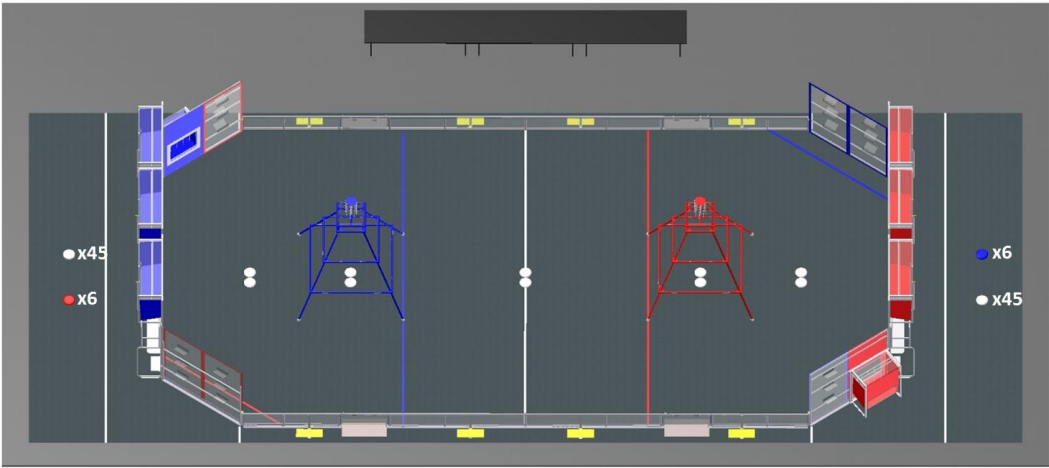

Figure 3-1: Starting Locations for DISCS
- A. No more than two (2) or three (3) White **DISCS** may be preloaded in each **ROBOT** by the **TEAM**, depending on the **ROBOT'S** starting position (see G06 for details).
- B. At least ten (10) White **DISCS** are staged on the **FIELD** approximately as illustrated in Figure 3-1.
- A. Two (2) **DISCS** are centered between the **GUARDRAILS** and 78 in. from the Blue **ALLIANCE WALL** to the center of the **DISC**.
- B. Two (2) **DISCS** are centered under the Blue **PYRAMID**.
- C. At least two (2) **DISCS** are placed centrally between the **GUARDRAILS** and along the field **CENTER LINE**.